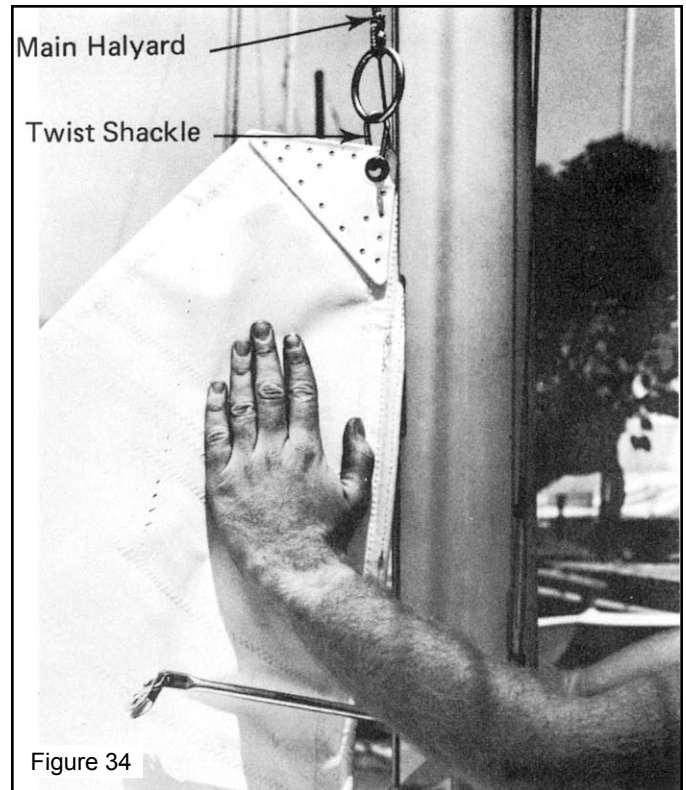
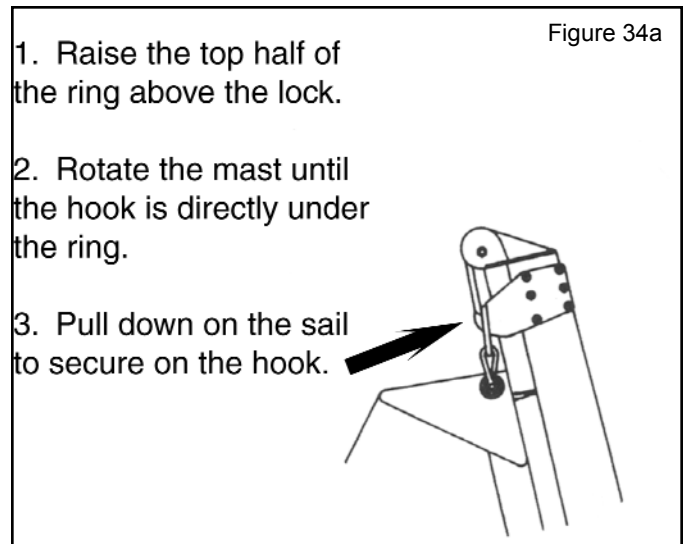

Figure 34
Figure 34a
4. Attach the twist shackle on the end of the main halyard to the grommet in the headboard and feed the sail into the sailtrack in the mast. See Figure 34. Note the metal ring connected to the twist shackle. It will engage the latching mechanism at the top of the mast. (see Figure 34a). Continue to raise the sail by pulling the main halyard out from the base of the mast.